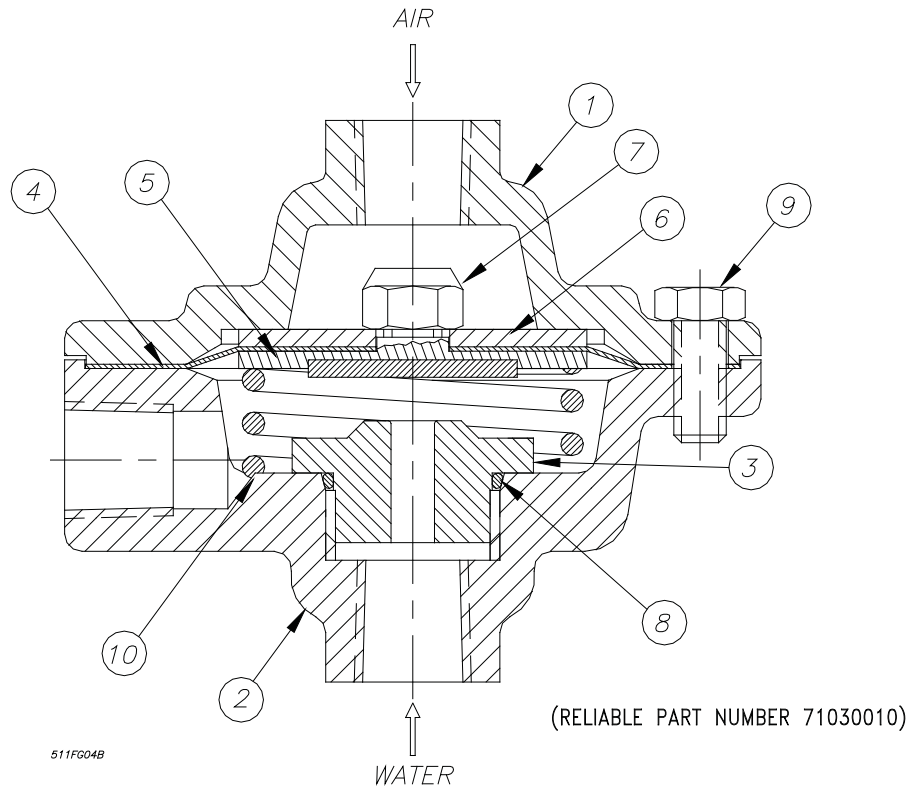

Fig. 4
Refer to Figs. 4 & 9
3. Remove all six bolts (#9, Fig. 4) holding the Actuator together. Clean or replace the facing plate assembly (#5, Fig. 4) and seat (#3, Fig. 4).
4. Reassemble the Actuator, using a torque of 8 ft-lbs on the facing plate nut (#7, Fig. 4) and 12 ft-lbs on the six bolts (#9, Fig. 4). Use a cross-tightening pattern. Reinstall the Actuator. Set up the Model DDX Deluge Valve as per the section "Resetting Model DDX Deluge Valve System".